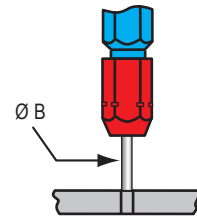

Fig. 2
- “NO GO” - Insert the end (red) of the gauge as shown (Fig. 2).